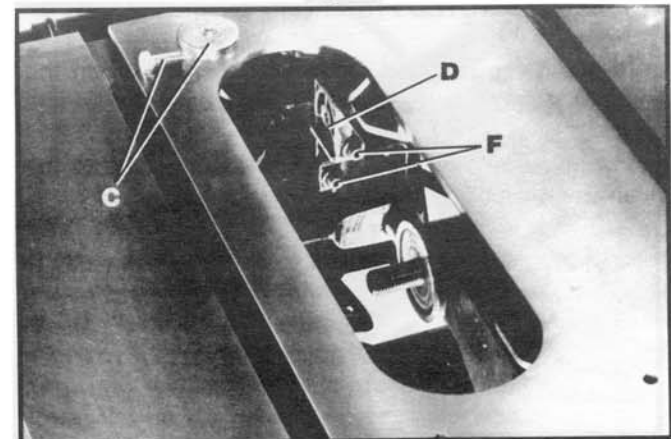

Fig. 23
5. If alignment is necessary, loosen the two screws (F) Fig. 23, align bracket (D) with the arbor flange and tighten screws (F).
6. Loosely assemble large washer and screw (C) Fig. 23, to the inside splitter bracket. This screw and washer was removed in **STEP 3**.